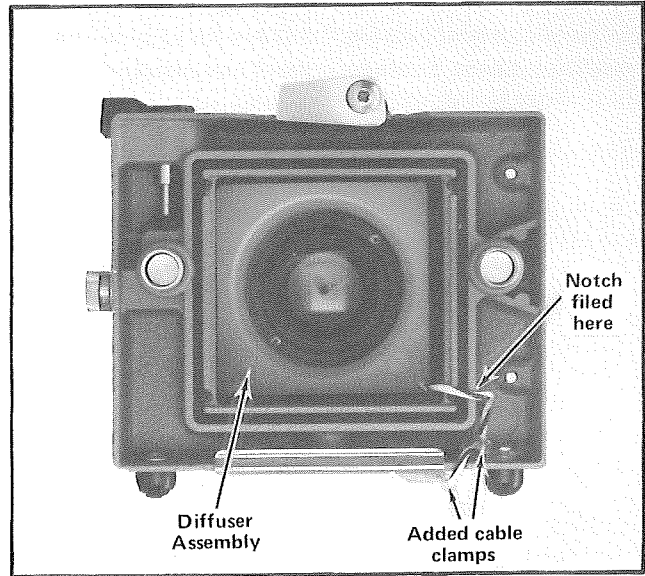

Fig. 2-14. Correct installation of the diffuser assembly in C-30A and C-31 type cameras.
3. Use a small round or half-round file to file a small round groove in the rear casting of the camera in the location shown in Fig. 2-14. The depth of the small groove should be approximately one-half the thickness of the diffuser assembly power cable.
5. Remove the protective covering from the tape on the back of the diffuser assembly. Press the diffuser assembly into the rear of the camera in the manner shown in Fig. 2-14.
6. Route the diffuser assembly power cable through the notch provided in step 3. Secure the cable with the cable clamps provided in the manner shown in Fig. 2-14. There should be sufficient cable length to allow the camera to be set to an object-to-image ratio of 1.5:1 and the cable should not interfere with the image area when the image-to-object ratio is changed.